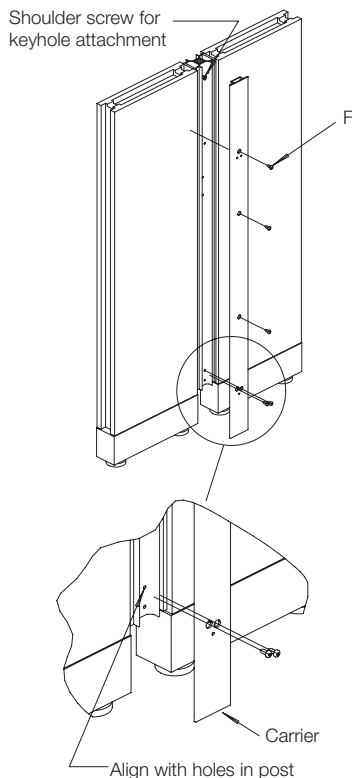

Fig 6
2.4. On the now assembled carrier, install shoulder screw (C) and bracket (D) using fastener (F) 2 plcs. (Fig 6)